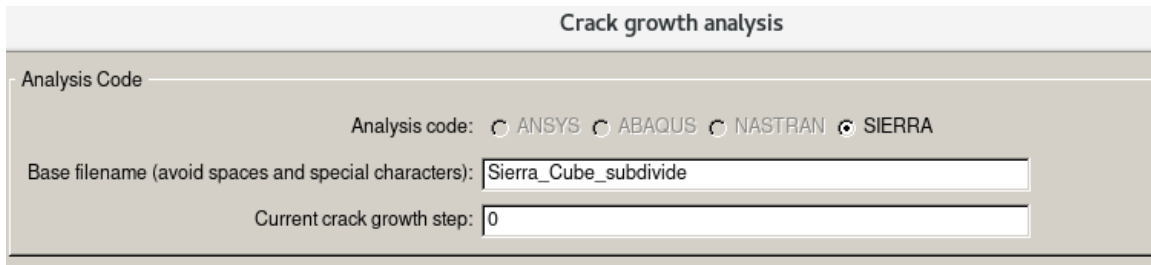

Figure 2.56 Crack Growth Analysis wizard – seventh panel.
The seventh panel, Fig 2.56, shows that SIERRA is the solver. The current crack growth step defaults to 0 – representing the initial crack. (If we “manually” propagated the crack first, we should set this to 1.) FRANC3D will extend the initial crack based on the growth rule defined in the previous panels, and then name the resulting set of files as
*Sierra_Cube_Subdivide_STEP_001.**. Subsequent file names have the step number incremented as the automatic analysis proceeds. Select **Next** (button not shown in Fig 2.56).